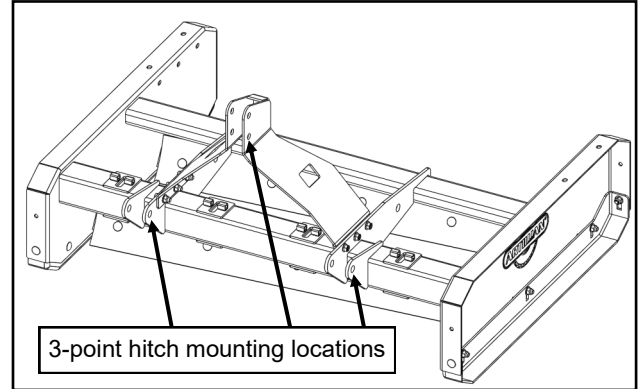

Fig. 3 (3-Point Hitch Mounting Points)
3. Raise the lift arms such that the left lift arm is at the same height as the corresponding mounting point on the land plane. The three points are indicated with arrows in figure 3.
7. Adjust the top link of the 3-point hitch on the tractor to line up with the bottom holes on the top portion of the top link mount structure as indicated in figure 3. Use the 3/4" diameter top link pin to secure the top link in place.